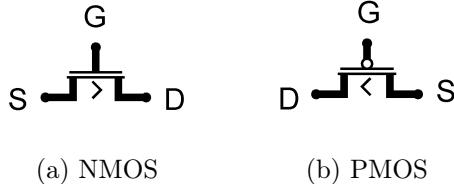

Figure 5.0.1: Wiring convention for FETs in *LogiSim*.
- Pay attention to the wiring conventions for NMOS and PMOS transistors in *LogiSim*, as shown in Figure 5.0.1. Note the direction of the caret (\wedge) and do not confuse source and drain.